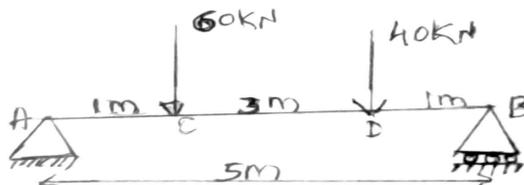

Fig. Q10 (b)
b. For a simply supported beam loaded as shown in Fig Q10 (b), determine the slopes at A, B and deflection at C and D. Also find maximum deflection under 40 kN load. **10** (3 :5 : 2.2.1)